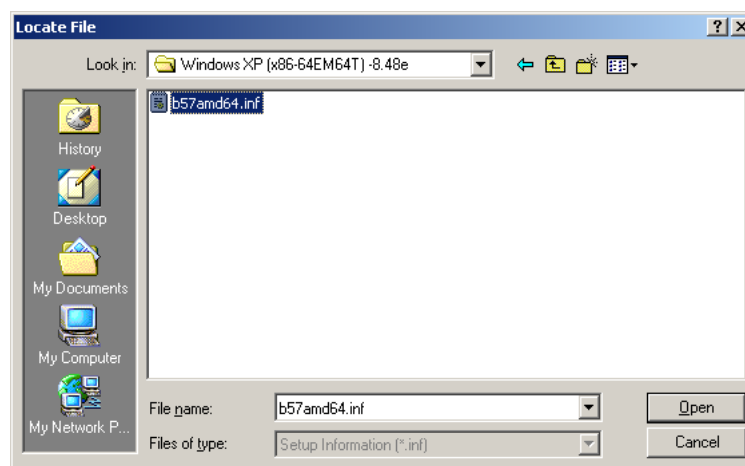

Figure 7-18: Location Browsing Window
Step 8: Select the proper OS folder under the “X:\3-LAN\E\3-LAN\Realtek RTL8111E” directory (**Figure 7-18**) in the location browsing window, where “X:\” is the system CD drive.